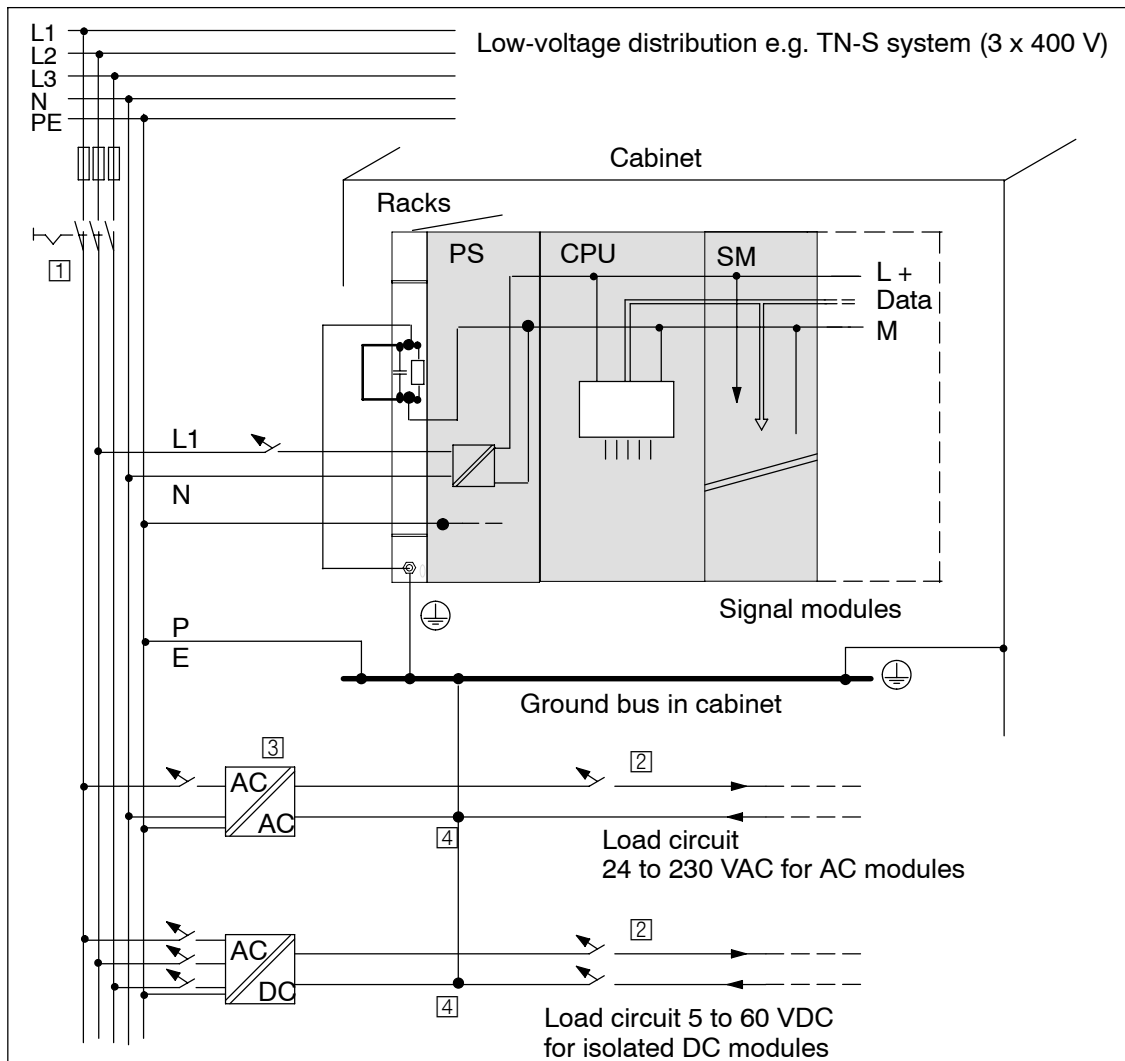

Figure 4-1 Operating the S7-400 from a Grounded Supply
Various components and protective measures are specified for assembling a full installation. The types of components and whether the protective measures are mandatory or recommended depends on the VDE specification applying to your installation, VDE 0100 or VDE 0113. The following table relates to Figure 4-1.
| Compare ...  | Ref. to Figure 4-1, page 4-6 | VDE 0100  | VDE 0113   |
Reliable functional safety is provided by the common reference potential (ground). Provide a detachable connection to the protective ground conductor at the load current power supply (Terminal L- or M) or on the isolating transformer (Figure 4-1, ④). In the event of faults in the power distribution, this will facilitate the locating of ground faults.
Shown in Figure 4-1 is the position of the S7-400 in the overall installation (load current power supply and grounding concept) with supply from a TN-S system.